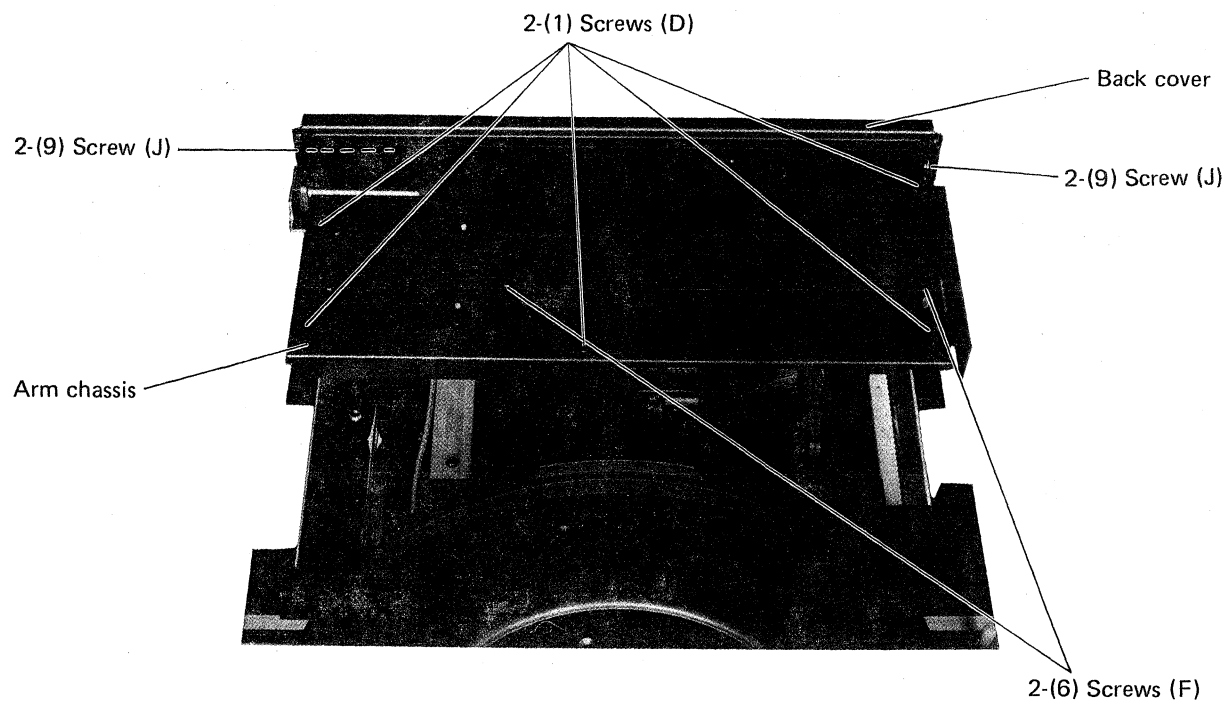

Fig. 2
- (6) Dismount tonearm ass'y. (See fig. 2, 4, 5, 6)
- (9) Dismount mechanism cover. (See fig. 2)